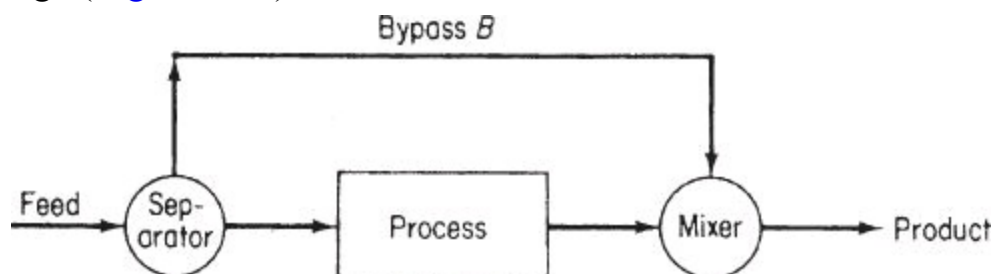

Figure 6.10. A process with a bypass stream
Two additional commonly encountered types of process streams are shown in Figures 6.10 and 6.11:
1. A **bypass** stream—one that skips one or more stages of the process and goes directly to another downstream stage (Figure 6.10)